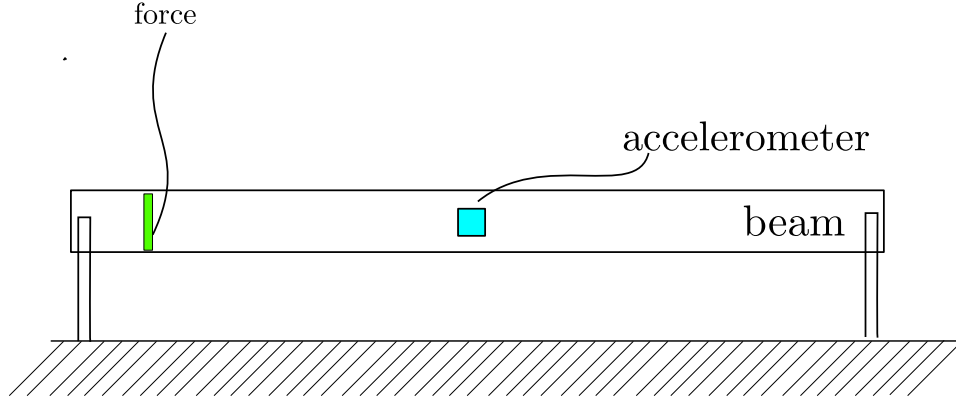

Figure 1: System sketch, with accelerometers and force sensor
The analysis will focus on the laboratory setup schematized in Figure 1. A beam (length L) is pinned to two rods, which are connected to the ground.
An hammer generates a force $f(t, x)$ on a specific point of the beam ($L/8$, green line in Figure 1). The force can be modeled as an impulse in the time domain, while in the space domain can be modeled as a concentrated force.
The force is measured thanks to a force sensor (which is included in the hammer), the accelerations of the beam and the cart are measured with two accelerometers positioned at $L/2$ (in Figure 1 you can see only one accelerometer, the other one is on the other side of the beam).
- Referring to Figure 1, choose a reference frame and write the analytical model of the beam. Consider only the first three modes to describe the system